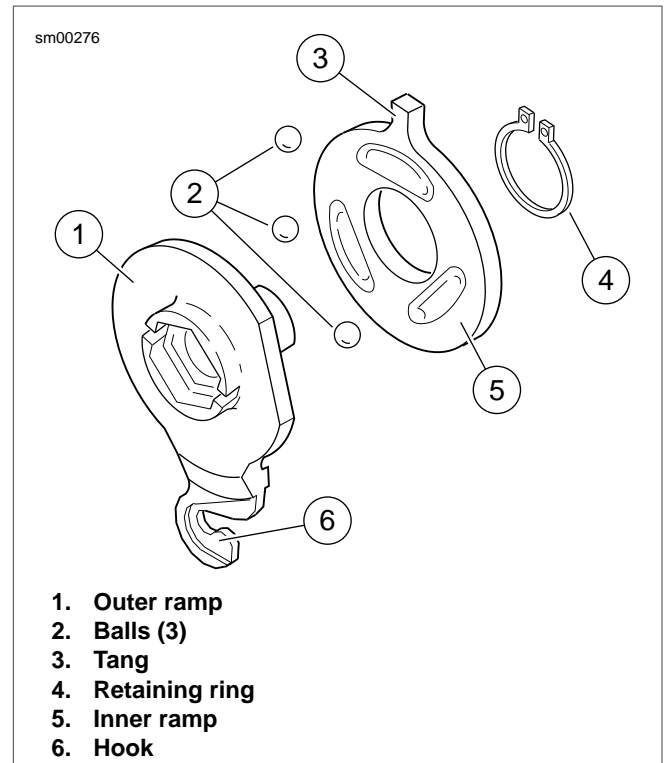
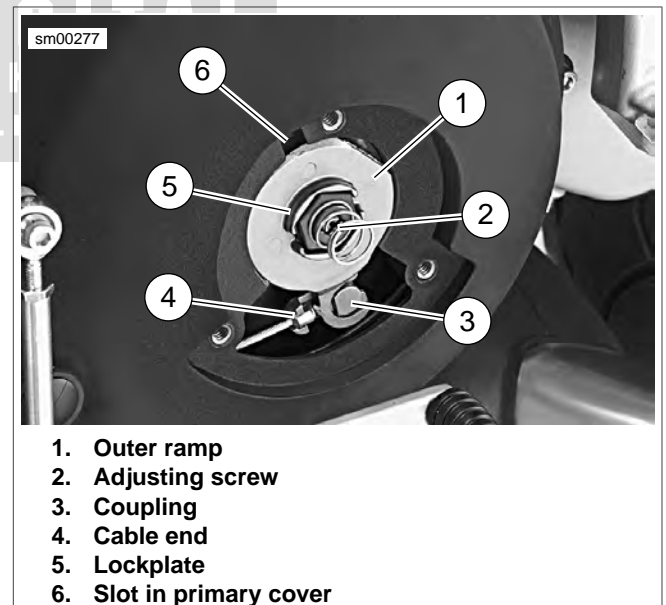

Figure 5-10. Inner and Outer Ramp
Figure 5-11. Nut and Outer Ramp
1. See Figure 5-10. Assemble inner and outer ramps.
- a. Apply multi-purpose grease to balls (2) and ramps (1, 5).
- b. Insert balls in sockets of outer ramp (1).
- c. Install inner ramp on hub of outer ramp with tang (3) rotated 180° from hook (6) of outer ramp.
2. See Figure 5-11. Install ramp assembly.
- a. Fit coupling (3) over cable end (4) with rounded side inboard, the ramp connector button outboard.
- a. Thread nut on adjusting screw (2) until slot of screw is accessible with a screwdriver.
- e. Install clutch adjusting lockplate (5) and spring.